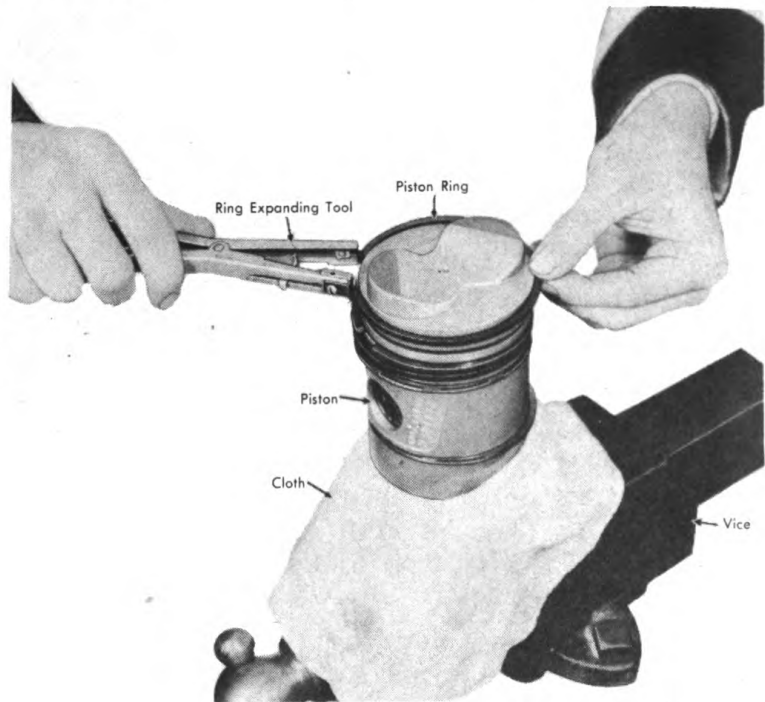

Figure 179. Installing piston rings.
12. Clamp the piston and connecting rod assembly in a vise with lead jaws, to prevent damaging the connecting rod, so that the piston seats tightly against the top side of the jaws. With a narrow strip of clean cloth, clean out each ring groove. If the clearance between the ring lands and the ring has not been checked according to the instructions in paragraph 42, the checks should be made before installing the rings. Install the rings with a ring tool and space the gaps of the rings 90° apart (a quarter of a circle), as shown in Figure 179. The three top rings are compression rings; the fourth and the fifth rings at the bottom are oil control rings.